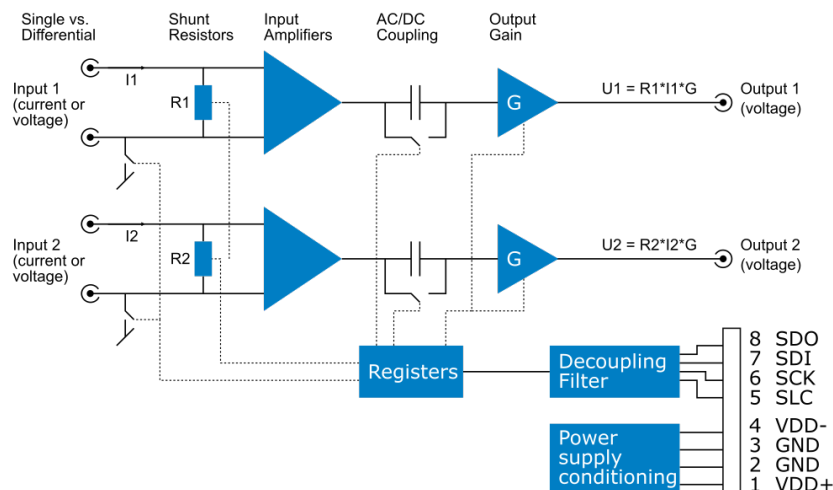

Figure 11.4: Detailed block diagram
**Shunt resistors:** HF2CA measures the current between the positive and the negative input terminal by measuring the voltage drop across a resistor, that is shunted between the inputs (see Figure 11.4). The supported resistor values are given in Table 11.3. It is also possible to remove all internal resistors and to support any custom resistor that is externally connected (see Custom Input Impedance). When all resistors are removed (infinite impedance), then the HF2CA becomes a voltage amplifier with selectable gains 1 and 10.